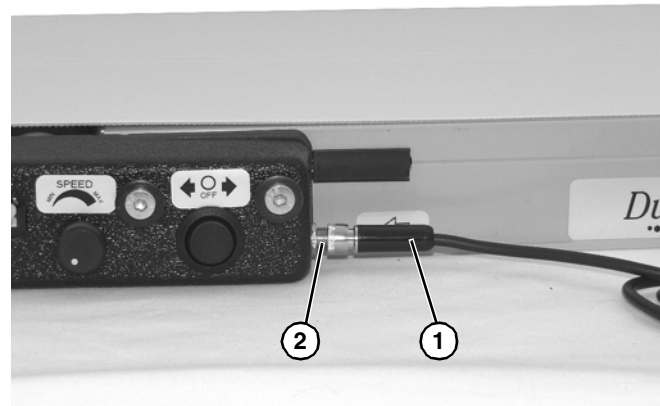

Figure 23
1. No wiring is required. Attach quick disconnect end of power supply (**Figure 23, item 1**) to power jack (**Figure 23, item 2**).